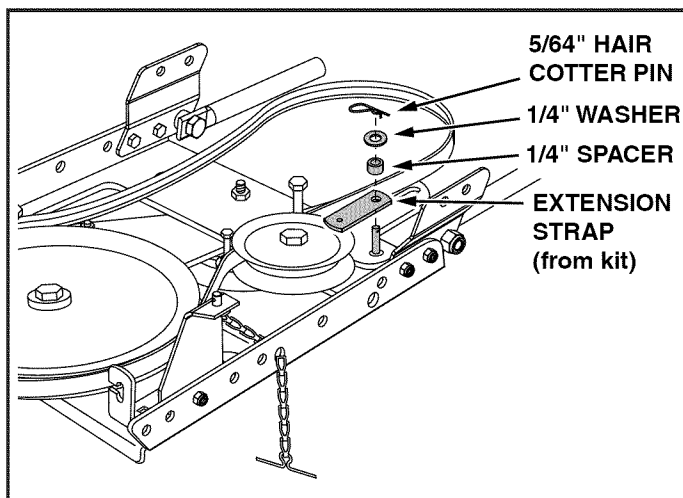

FIGURE 24
STEP 10: (SEE FIGURE 24)
STEP 1: (SEE FIGURE 24)